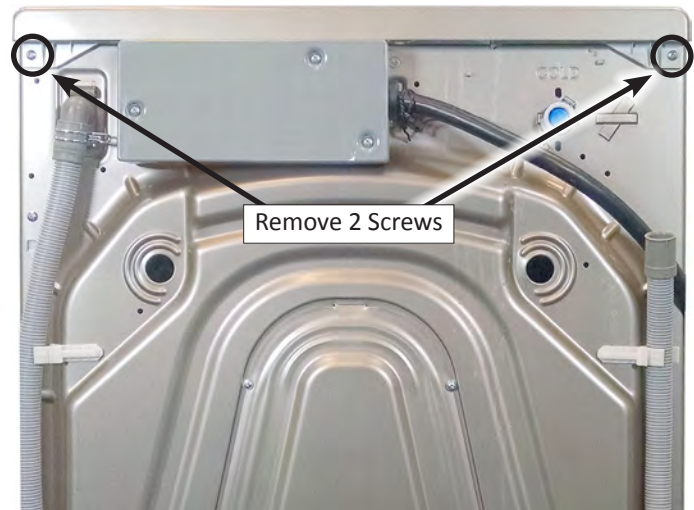

Figure 4
6. Remove two (2) Phillips screws from the rear of the top panel as indicated in Figure 4.